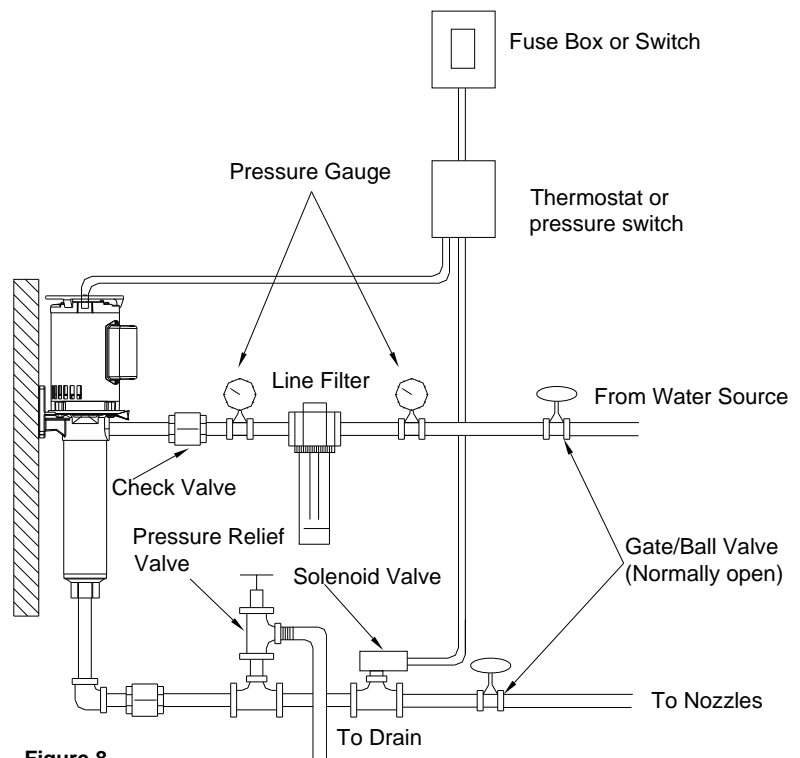

Figure 8
4. Whenever dirt, sand or debris is present in the supply water, install a strainer or filter on the inlet side of the pump (See Figure 8).